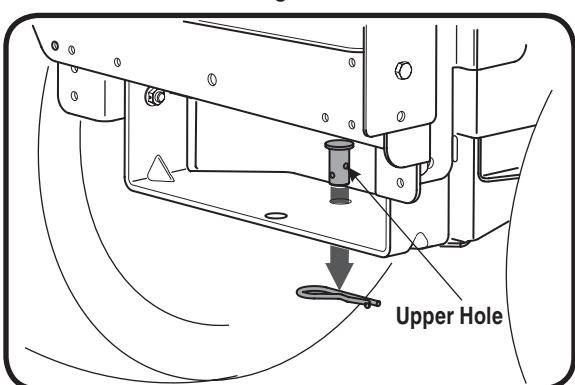

Figure 16
- Reinsert the clevis pin through the aligned holes in both the bracket assembly and the hitch plate and secure with the hairpin clip removed earlier. See Figure 16.